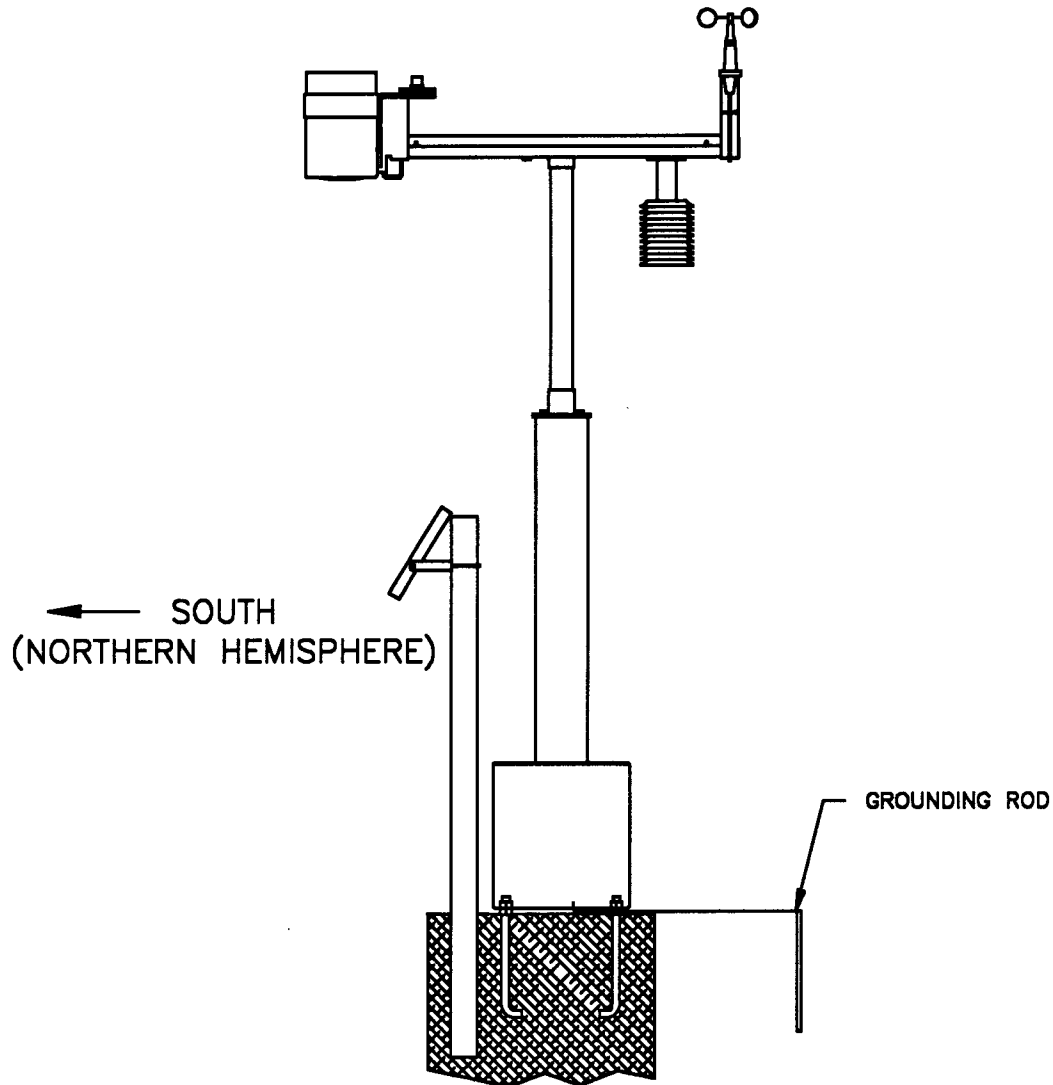

FIGURE 1.3-2. Comax Weather Station with Solar Panel
Step 5 - Weather stations using a solar panel for charging the battery need to insert a user supplied 1 1/4" pipe into the cement pad (Figure 1.3-2).
The solar panel is mounted (Figure 1.3-2) on the south side of the weather station (Northern Hemisphere only) and connects to the terminals labeled "INPUT EXTERNAL CHARGING SOURCE". In order for the Solar Panel to charge the batteries, be sure that the battery leads are connected to the terminals labeled "12V BATT". The battery will not be charged if it is connected to the "AUXILIARY BATTERY" terminal.